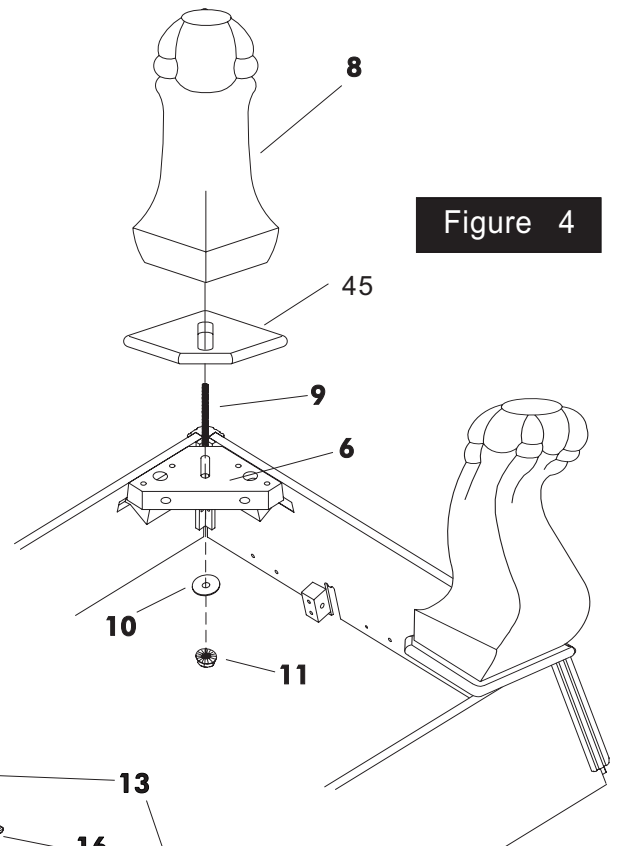

Figure 4
7. Attach legs #8 to Leg Blocks #6 using the stud #9 in Leg, one washer #10 and one nut #11 for each leg. Square leg up with corner of cabinet and tighten. See Figure 4.